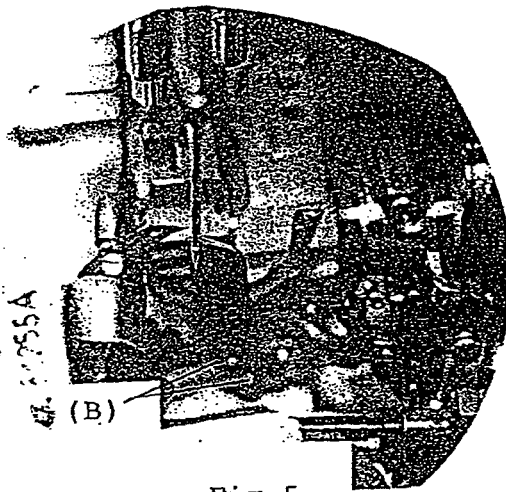

Fig. 5
Set the rear needle guard ( Looper lever needle guard ) so that it barely contacts the needle when the looper point approaches the left side of needle. Adjustment can be made by loosening the two screws (B) / Fig. 5 and re-set the needle guard at proper position.